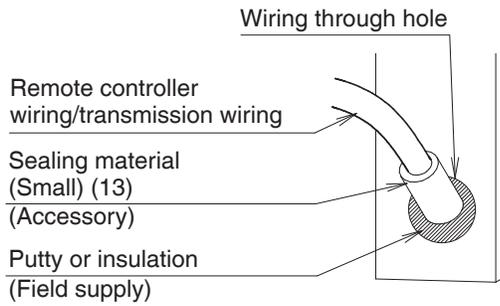

Fig. 24
- After connecting the wiring, make sure to stick the sealing material (Small) (13) to the wiring through hole to prevent water from entering the indoor unit. **(Refer to Fig. 24)**